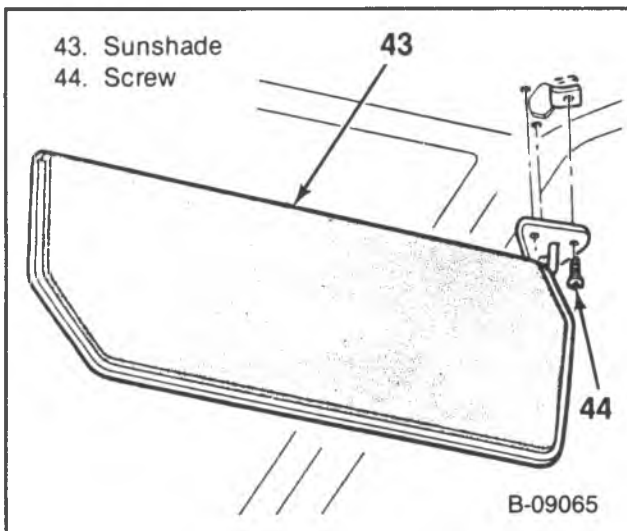

Figure 15 — Sunshade
1. Windshield upper garnish molding screws (56) and the molding (55).
2. Side window garnish molding screws (58) and the molding (59).
3. Windshield garnish molding screws and the molding (57).
4. Roof rear header molding screws (60) and the molding (53).
5. Lock pillar garnish molding screws and the molding (61).
6. Sunshade screws and the sunshade (figure 15).
7. Headliner (54) from the vehicle.
1. Headliner (54) to the vehicle.
2. Sunshade and screws (figure 15).
3. Lock pillar garnish molding (61) and screws.
4. Roof rear header molding (53) and screws (60).
5. Windshield garnish molding (57) and screws.
6. Side window garnish molding (59) and screws (58).
7. Windshield upper garnish molding (55) and screws (56).